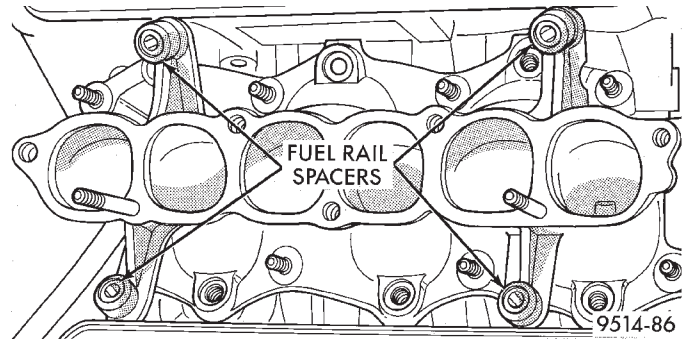

Fig. 29 Fuel Rail Spacers
- (7) Lift fuel rail off engine. **There are spacers under each fuel rail bolt (Fig. 29).**